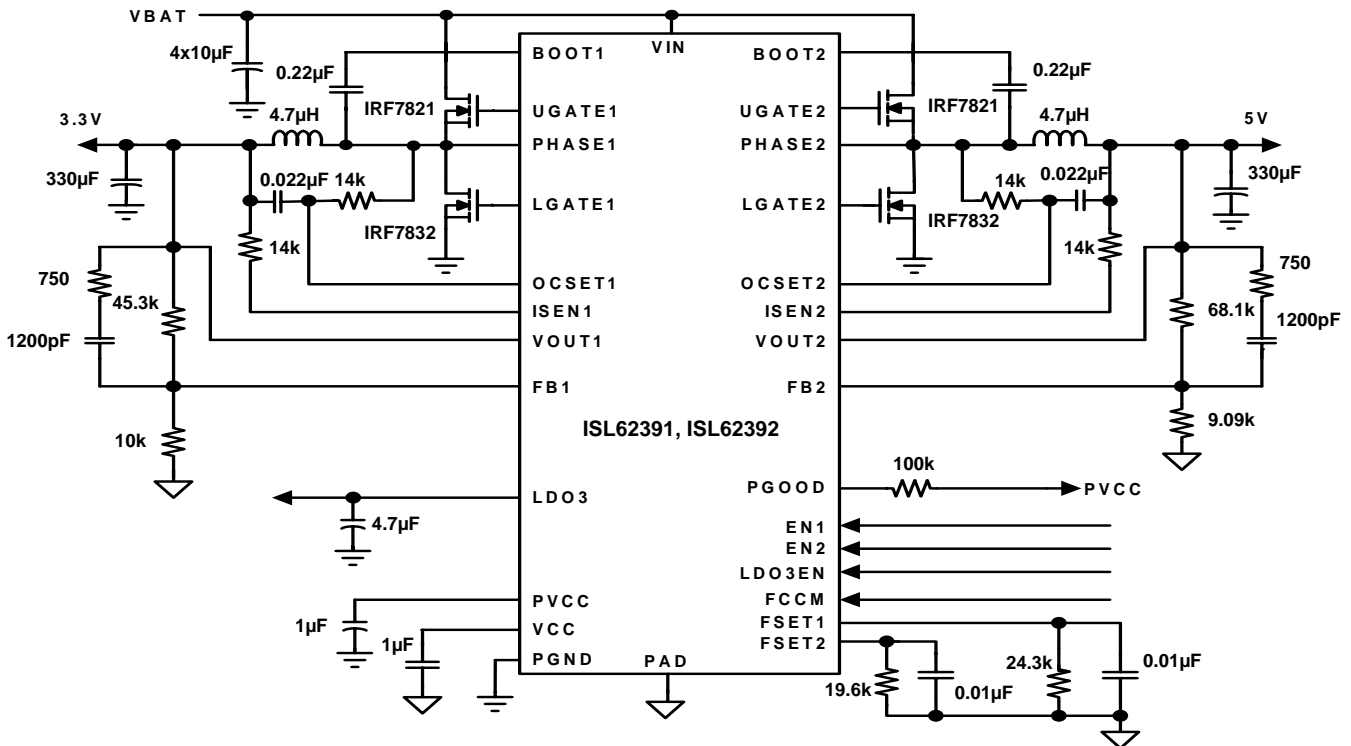
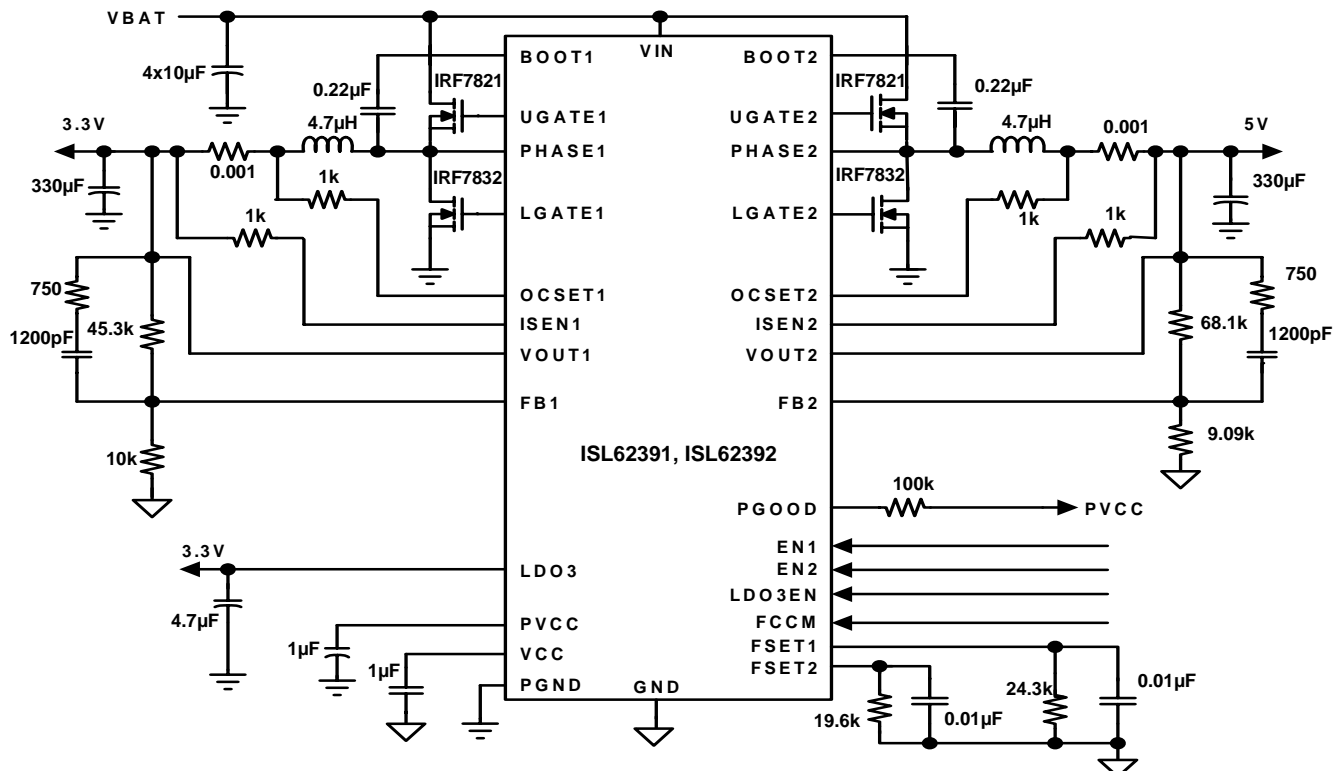

FIGURE 1. TYPICAL SYSTEM REGULATOR APPLICATION CIRCUIT WITH INDUCTOR DCR CURRENT SENSE
FIGURE 2. TYPICAL SYSTEM REGULATOR APPLICATION CIRCUIT WITH RESISTOR SENSE
**Electrical Specifications** Circuit of Figure 1 and Figure 2, LDO3, OUT1, OUT2, and REF, VIN = 12V, EN = VCC, TA = -40°C to +100°C, unless otherwise noted. Typical values are at TA = +25°C. Parameters with MIN and/or MAX limits are 100% tested at +25°C, unless otherwise specified. Temperature limits established by characterization and are not production tested. **(Continued)**